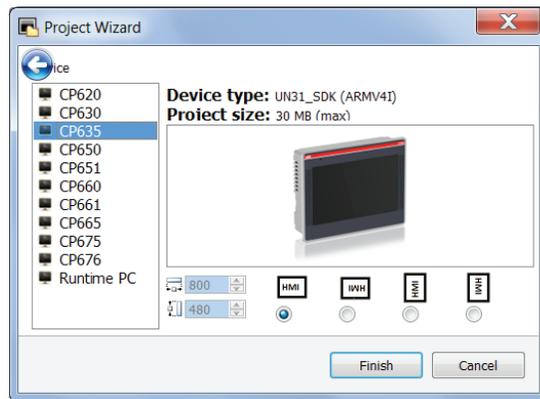

Figure 4- Configure the Panel Builder project
3. When panel builder opens your project for the first time the Project Wizard dialog appears. Select the panel type and display orientation, then click **OK** ( see Figure 4).